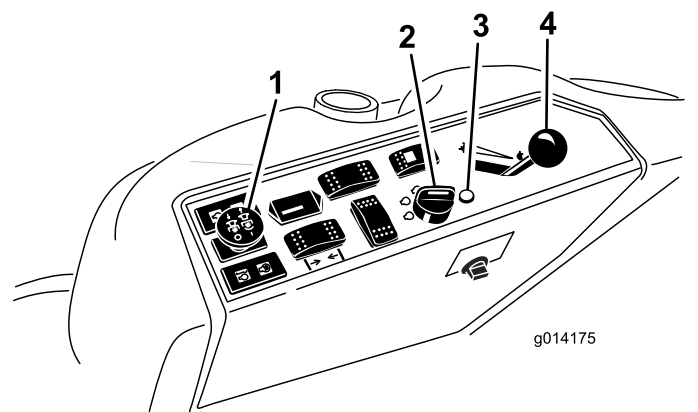

Figure 19
4. Move the power-takeoff (PTO) switch to the OFF position (Figure 19).
5. Move the throttle lever midway between the FAST and SLOW positions (Figure 19).